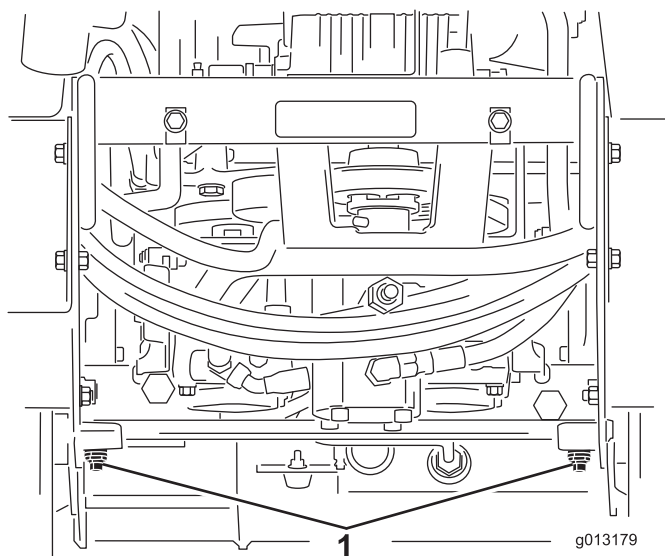

Figure 21
3. Using a wrench, turn the tow valves on the hydraulic motors twice counter-clockwise (Figure 21).